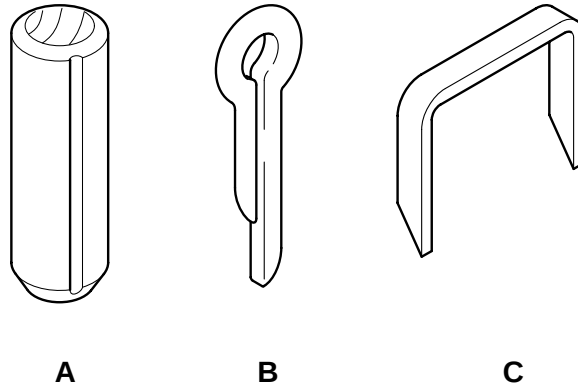

Fig. 4
- 11** Fig. 4 shows three different devices used in the workshop.